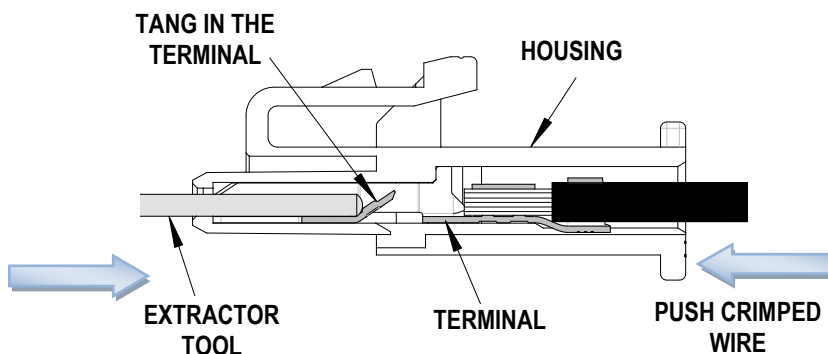

Figure 4
2. Push the terminal forward in the arrow direction before using the Extractor Tool as shown in Figure 4.